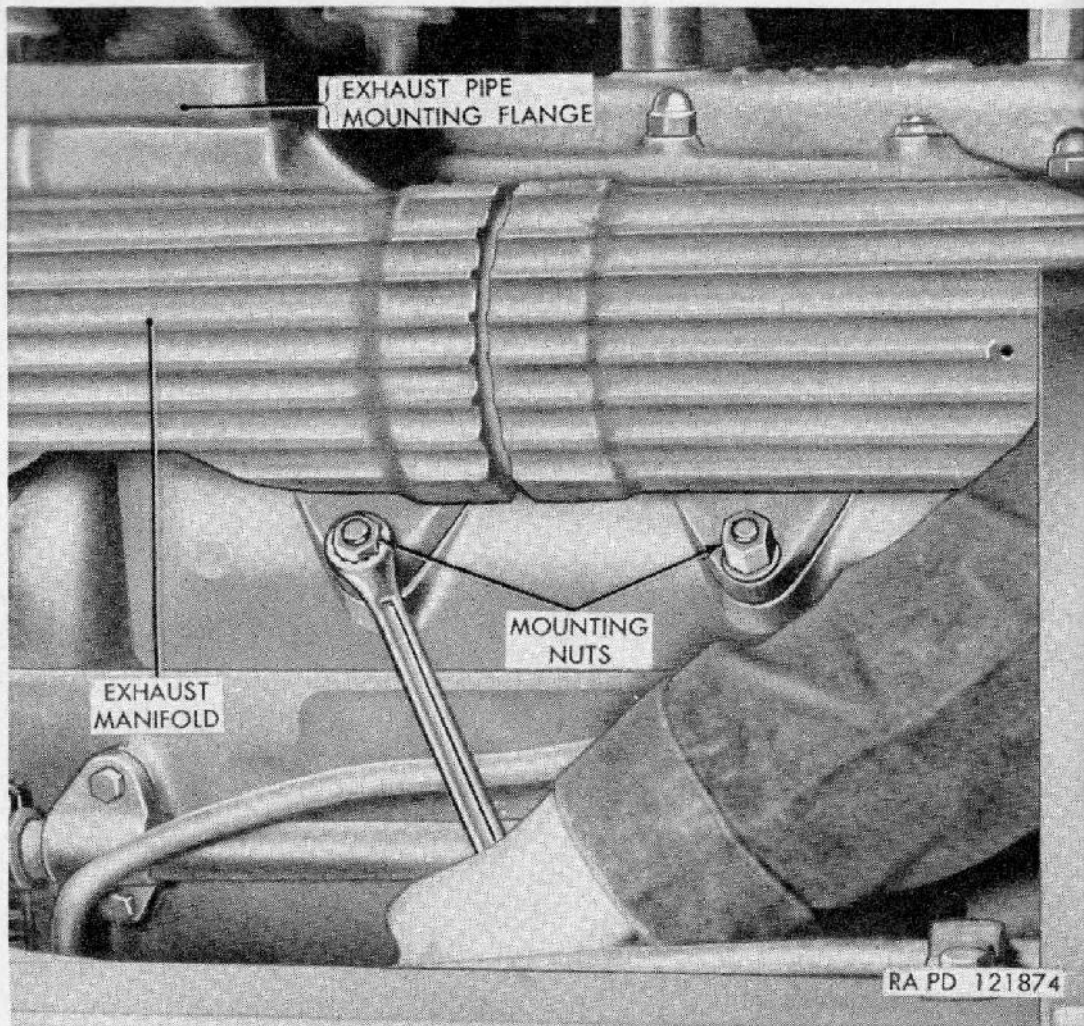

Figure 25. Engine exhaust manifold removal.
c. Exhaust Manifold Removal. Open the left engine compartment door (fig. 1) or right engine compartment door (fig. 2), depending from which engine the exhaust manifold is to be removed. Remove four cap screws attaching the exhaust elbow to the manifold (fig. 60). Remove four cap screws from the muffler end of the exhaust elbow (fig. 61) and remove the exhaust elbow from the engine compartment. Remove 18 nuts and washers from mounting studs (fig. 25) and lift